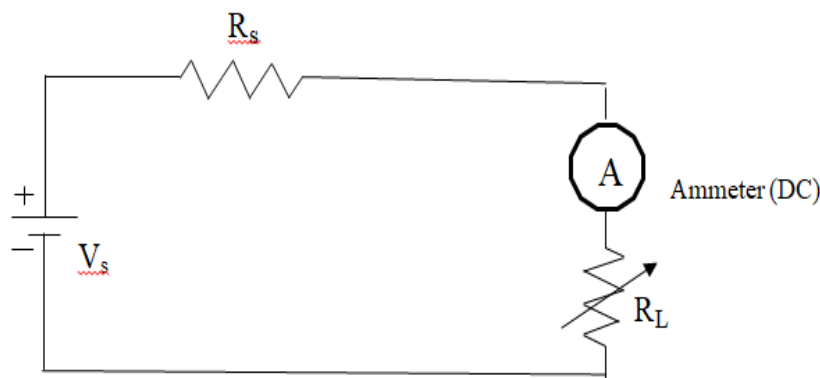

Fig 10.1: Sample circuit
1. Connect the circuit as shown in figure 10.1 on breadboard.